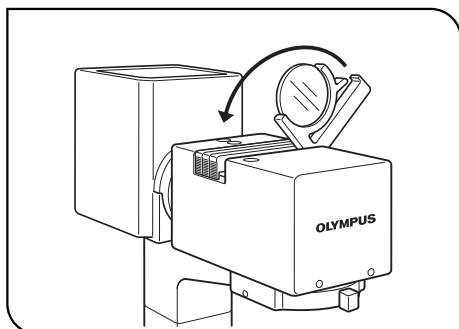

Fig. 31
3. Engage each filter in the light path by moving the filter holder in the direction of the arrow. (Fig. 31)